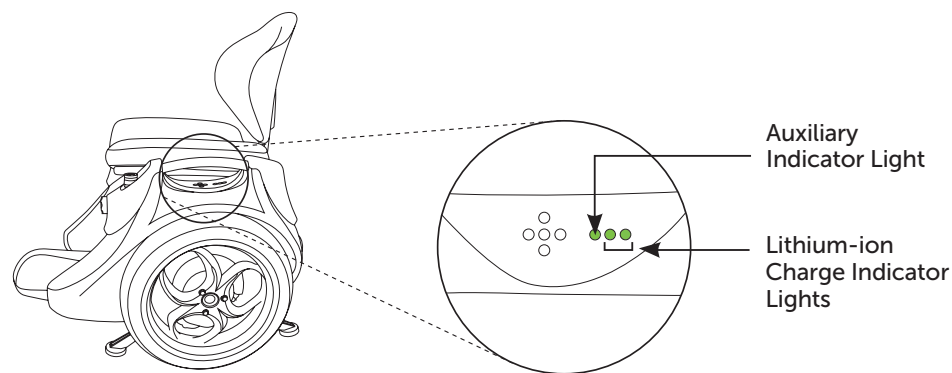

Figure 35: Indicator lights showing charging Batteries.
5. The Multifunction Indicator Light on the Omeo's Display Panel should illuminate green to confirm that the Auxiliary Batteries are charging (as shown in **Figure 35**)
The Indicator Lights for the Auxiliary Battery system are located on the Omeo Display Panel (as shown in *Figure 35: Indicator lights showing charging Batteries, Pg. 69*).